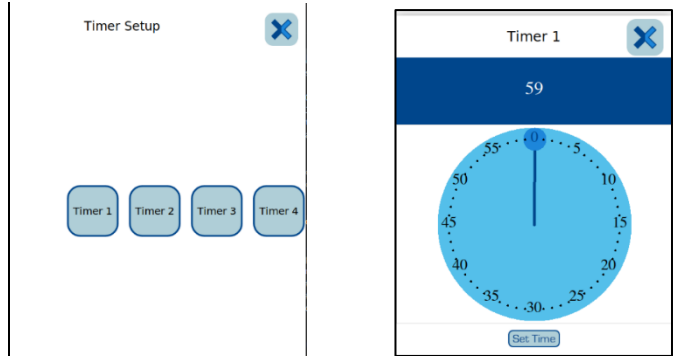

Fig. 7 & 8 Timer Menu and Settings
1. Press on timer icon, the screen shall show option to set time for all 4 timers separately (Fig 7 & 8).